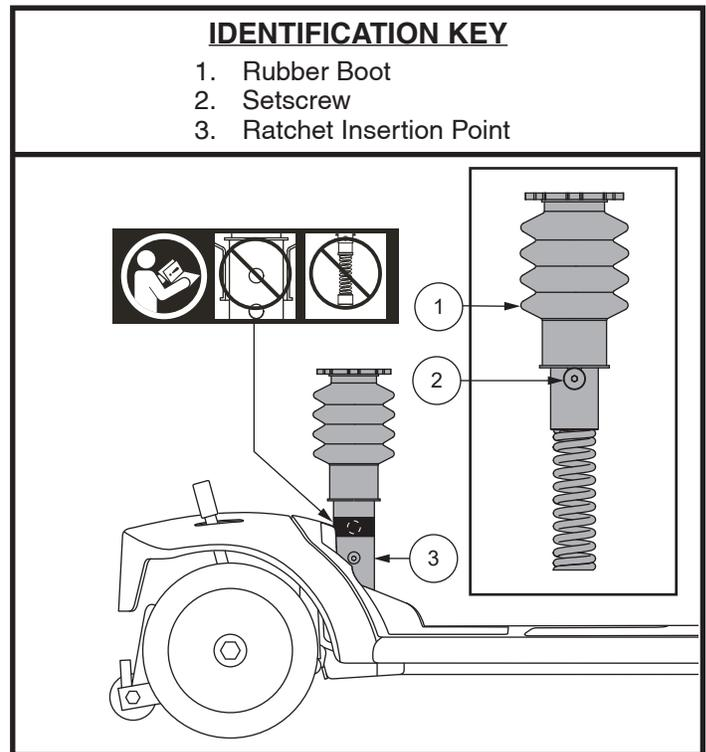

Figure 13. Seat Suspension Adjustment
TILLER ANGLE ADJUSTMENT (See figure 13)
2. Remove the upper seat post from the vehicle by removing the shoulder bolt from the lower portion of the seat post, then lifting the post straight up and off the vehicle. **See figure 13.**
NOTE: *Do not install the seat post in the upper hole with the suspension seat. See figure 13. Doing so will make the suspension seat post inoperable.*